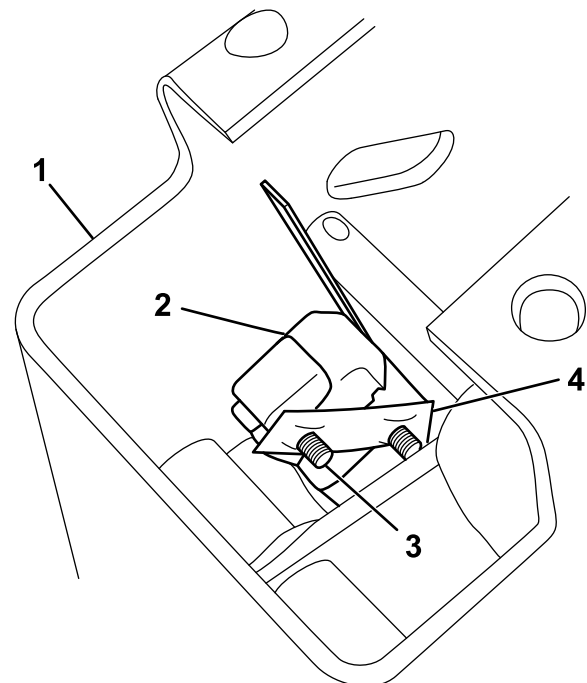

Figure 2
4. Assemble the switch to the right side of the shift assembly using 2 screws (#4 x 3.4 inch) and the speed nut (Figure 2).